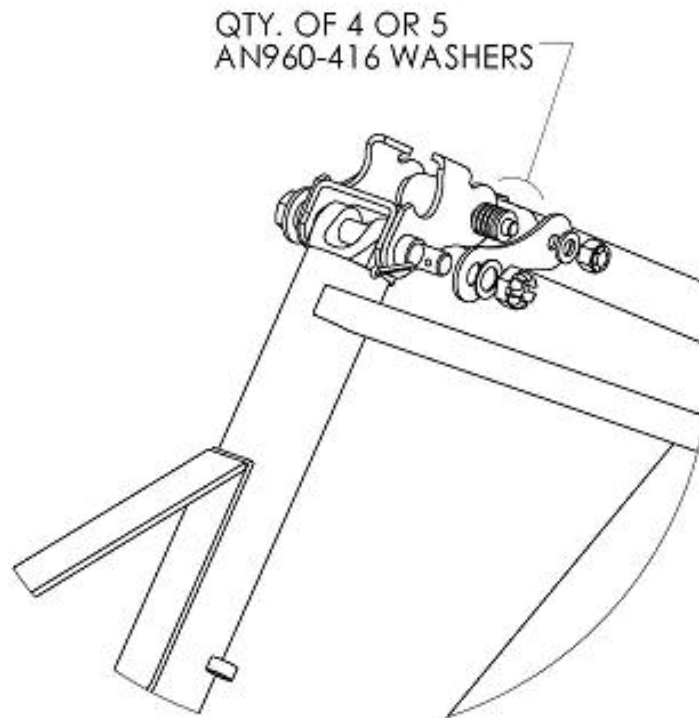

Figure 3 - Installed Cabane Reinforcement
7. Using AN960-416 washer, stack up approximately four or five washers (depending on bushing length of landing gear fitting) and install the second reinforcement plate. See Figure 3.